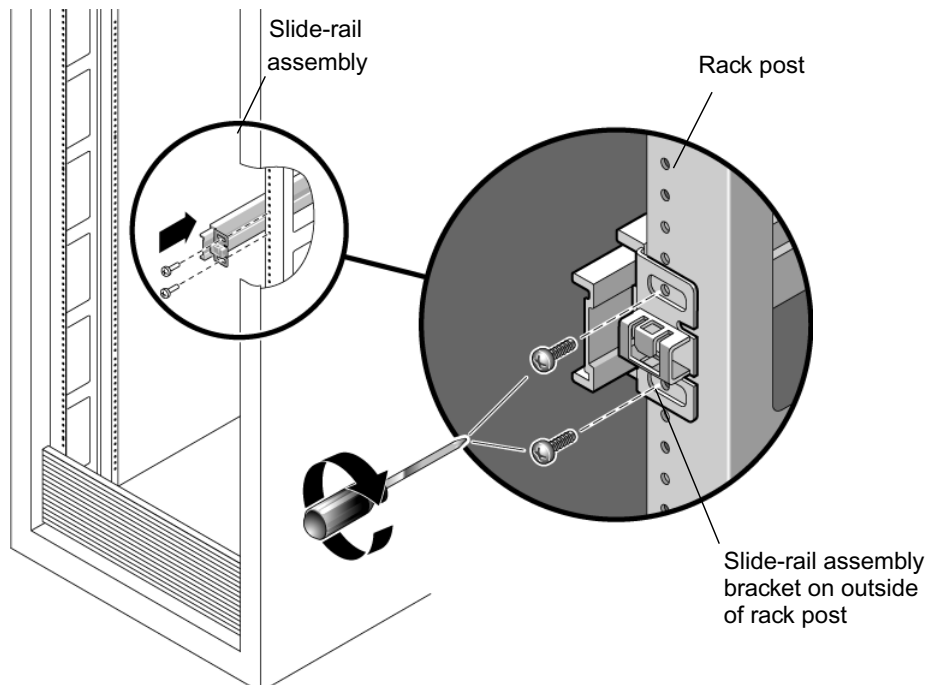

FIGURE C-3 Slide-Rail Assembly Mounting to Rack Post
1. Position a slide-rail assembly in your rack so that the brackets at each end of the slide-rail assembly are on the outside of the front and rear rack posts. (See FIGURE C-3.)